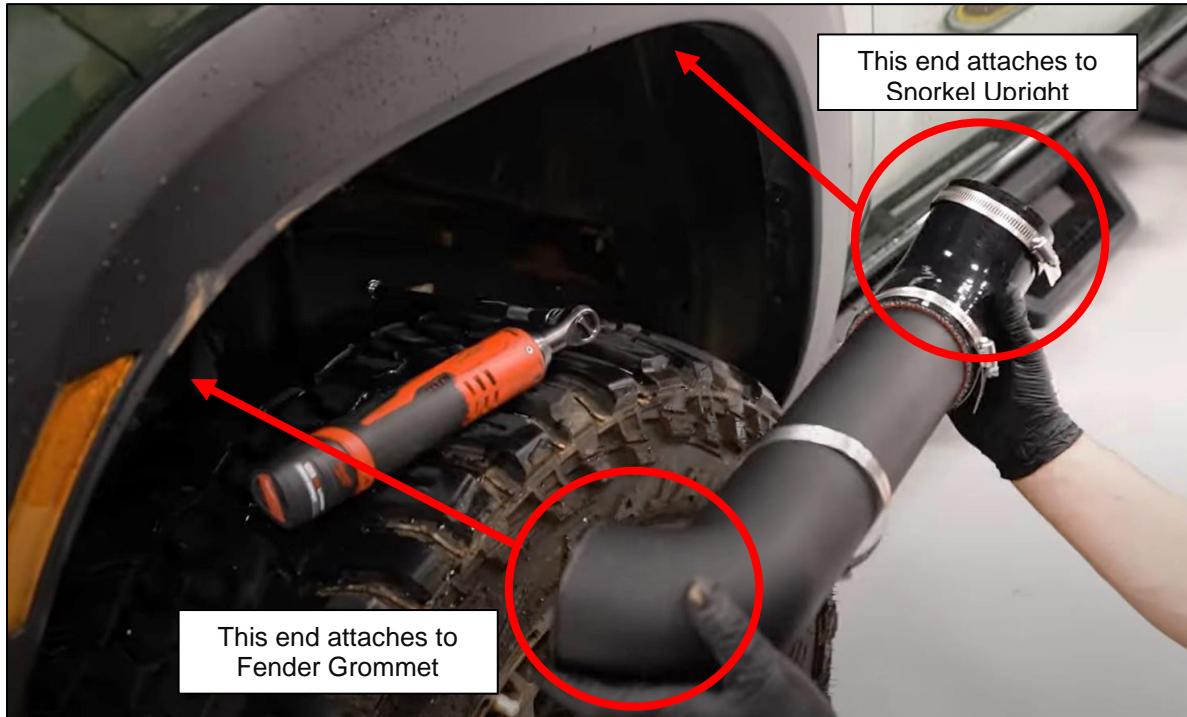

Figure 21
32. Locate the Fender Pipe Assembly created in *Step 27*. Position it inside the Driver's Side Wheel Well, and attach the bend of the Fender Pipe to the Fender Grommet first. Adjust the Band Clamps so they can be tightened, but DO NOT tighten yet. *Figure 21*.
33. Swing the Fender Pipe Assembly up, and connect the Silicone Coupler to the Snorkel Upright. Adjust the Band Clamps so they can be tightened, but DO NOT tighten yet. *Figure 21* above.